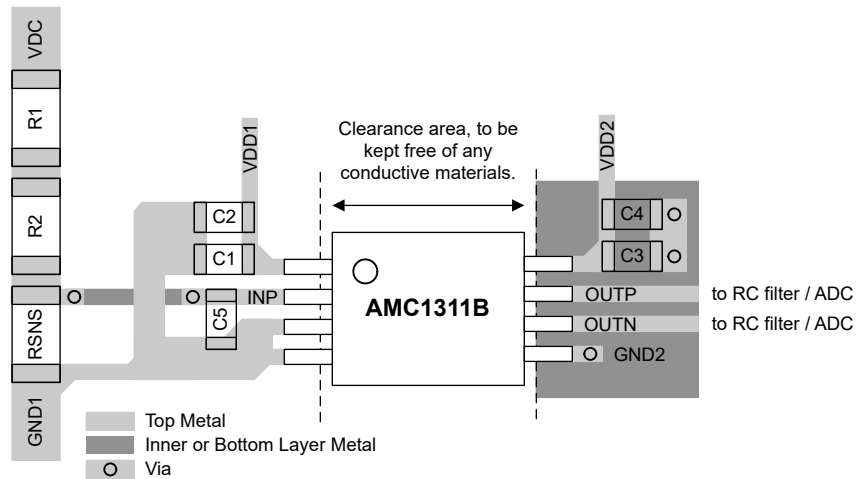

图 11-1. Recommended Layout of the AMC1311
Figure 11-1 shows a layout recommendation with the critical placement of the decoupling capacitors (as close as possible to the AMC1311 supply pins) and placement of the other components required by the device. For best performance, place the sense resistor close to the device input pin (IN).